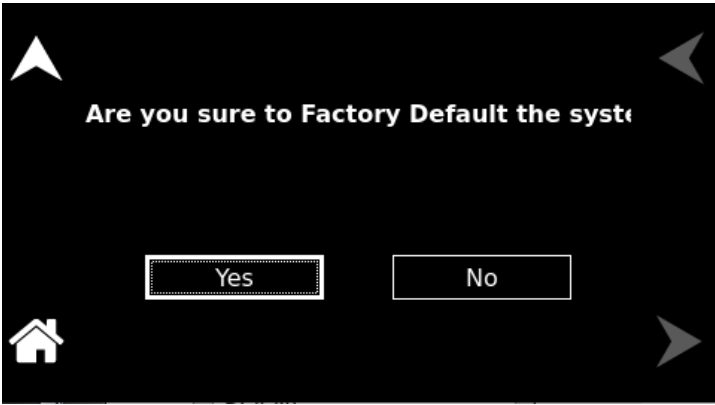

Figure 9-202. Factory Default
**Factory Default** Set the device to its original factory settings, as it was when it left the manufacturer. Refer to Figure 9-202.